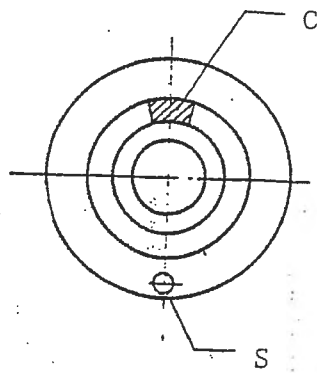

Fig. 4
- * Apply the first balancing weight "G" opposite to this point "S" and screw it up. It can not be moved again (Fig. 4)